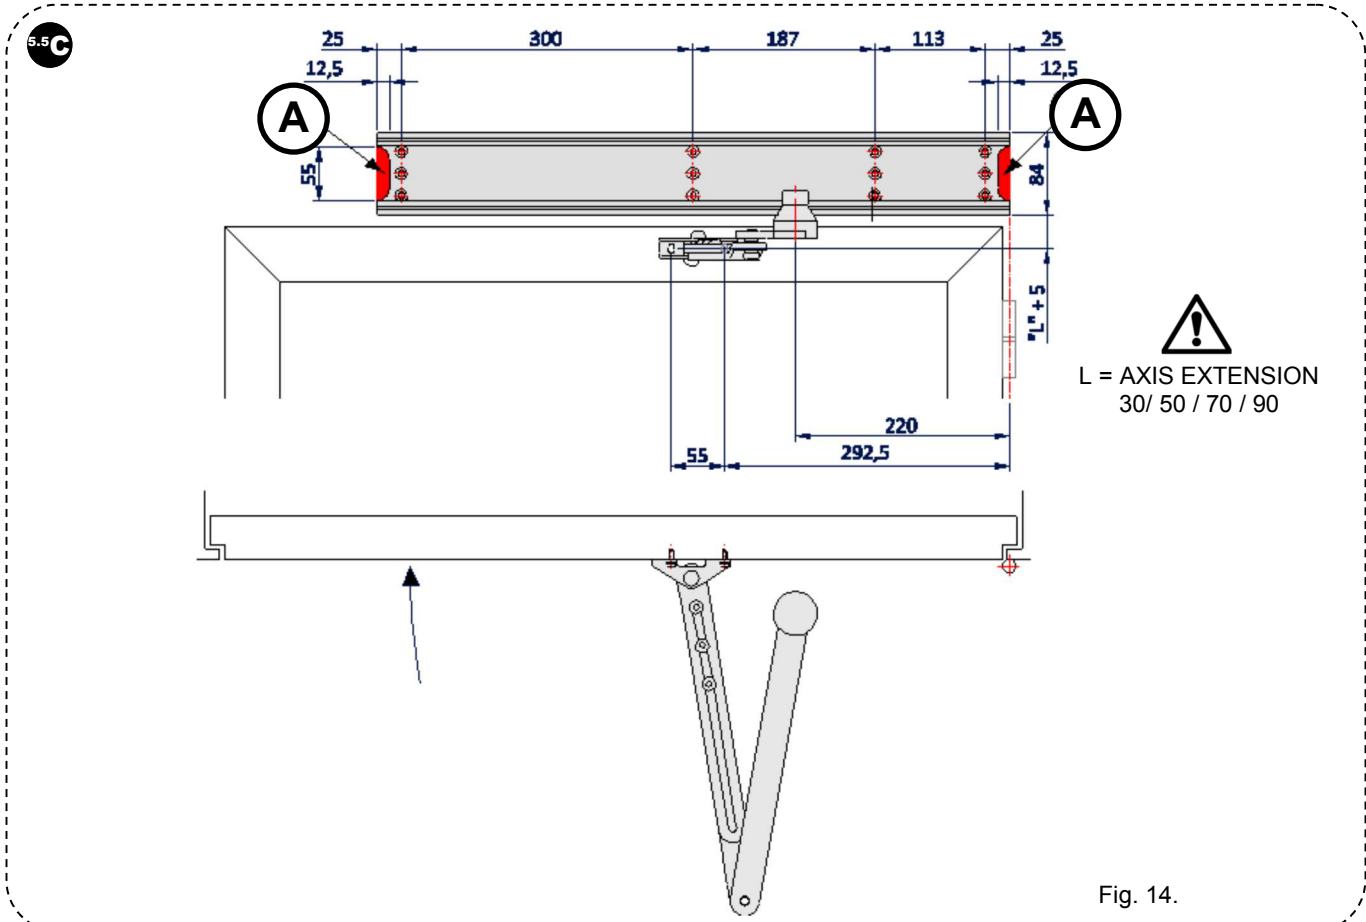

Fig. 14.
**WARNING:** To correctly place it, always use as main reference the axis of the leaf hinges and the motor drive shaft, as shown in Fig. 12, Fig. 13 (LEFT-opening leaf) and Fig. 14 (RIGHT-opening leaf).